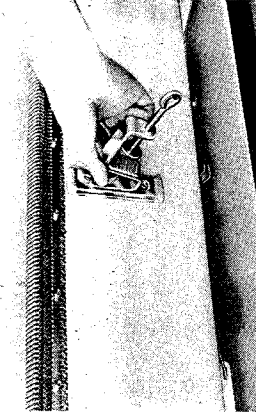

Fig. 5
Press upwards so that the head of screw (B) is in position (D) and fasten the knob (A). Fasten the knitter to the table by the tightening table clamps. It is essential that boss (E) fits snugly into aperture (F). (See Fig 5, 6)